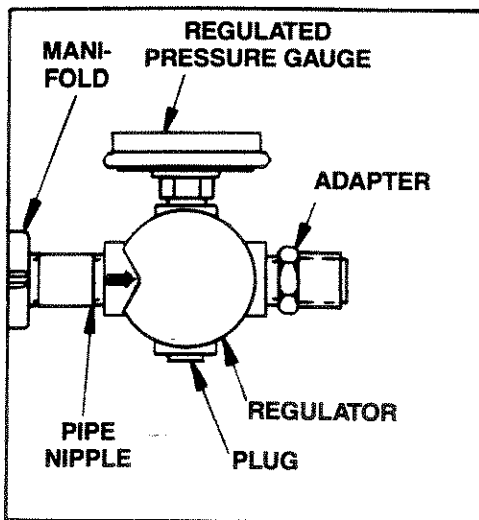

Figure 2
Install the regulator on the end of the manifold using the short pipe nipple (84). The arrow must point away from the manifold in order for the regulator to function properly. Next, install the gauge (85), adapter (86) and plug in the regulator. The plug is supplied with the regulator. (**Note:** Use a small amount of pipe thread sealant on all pipe thread joints.) Refer to Figure 2.